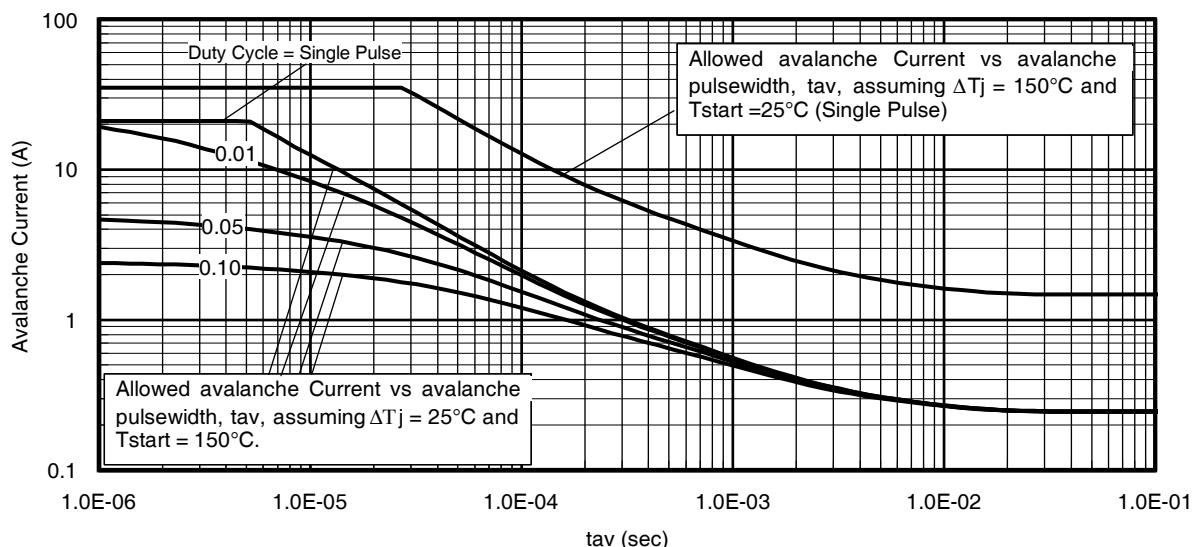

Fig 14. Typical Avalanche Current Vs. Pulsewidth
- ① Repetitive rating; pulse width limited by max. junction temperature.
② Starting $T_J = 25^\circ\text{C}$, $L = 0.51\text{mH}$, $R_G = 25\Omega$, $I_{\text{AS}} = 21\text{A}$.
③ Pulse width $\leq 400\mu\text{s}$; duty cycle $\leq 2\%$.
④ R_θ is measured at T_J of approximately 90°C .
⑤ Limited by $T_{j\text{max}}$. See Figs. 14, 15, 17a, 17b for repetitive avalanche information
Notes on Repetitive Avalanche Curves , Figures 14, 15:
7. ΔT = Allowable rise in junction temperature, not to exceed T_{jmax} (assumed as 25°C in Figure 14, 15).